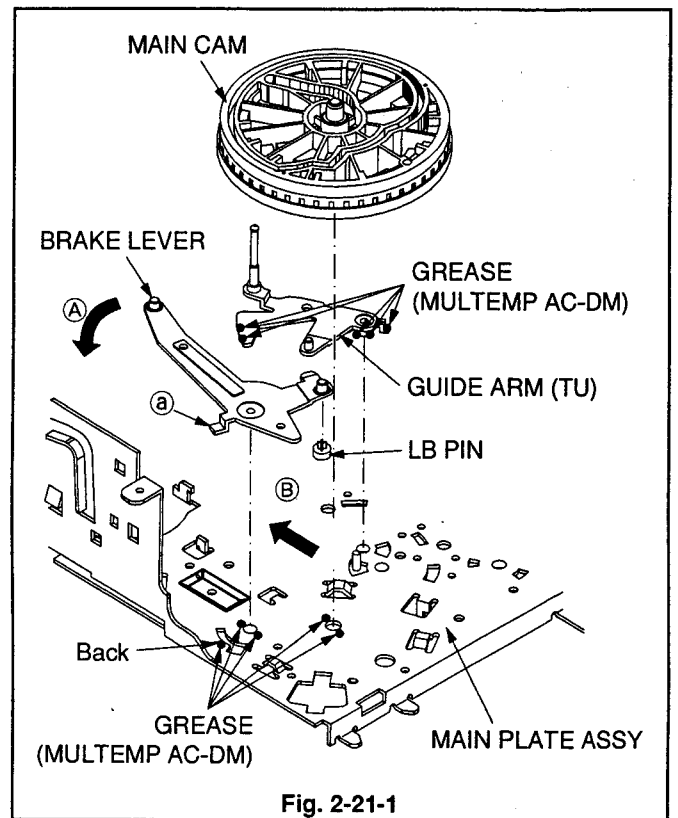

Fig. 2-21-1
1. Remove the MAIN CAM shown in the Fig. 2-21-1.
2. Remove the GUIDE ARM (TU) shown in the Fig. 2-21-1.
3. Move the BRAKE LEVER in the Fig. 2-21-1 in the direction shown by the arrow (A) and release the catch (a) to remove the BRAKE LEVER.
4. Remove the LB PIN shown in the Fig. 2-21-1.
1. Apply GREASE (MULTEMP AC-DM)[859D055O90] to the points on the new GUIDE ARM (TU) specified in the Fig. 2-21-1.
2. Apply GREASE (MULTEMP AC-DM)[859D055O90] to the points on the MAIN PLATE ASSY specified in the Fig. 2-21-1.
Set the Main Cam while pulling the Guide Pin (on the BCP UNIT) in the direction indicated by the arrow (B) (toward the deck front) using tweezers as shown in Fig. 2-21-1.